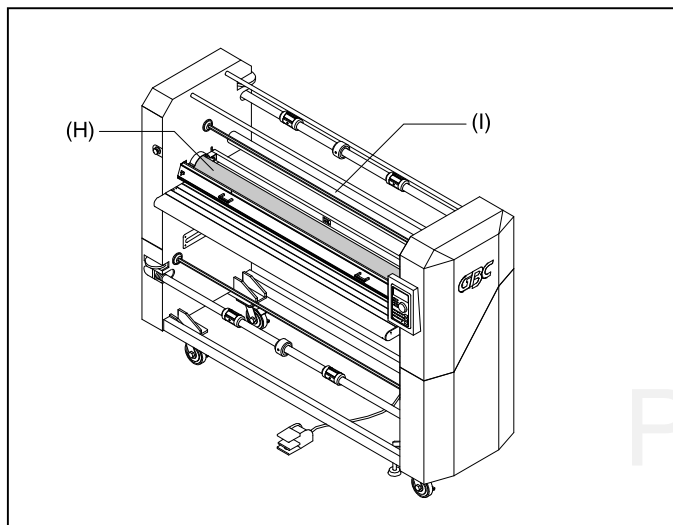

Fig. 13
**H. MAIN ROLLER:** (Figure 13) Silicone rubber coated steel tubes compress the film to the items being laminated. The top main roller can be heated by an internal heating element which assists the flow of adhesive of the top roll of film. The main rollers are motor driven for ease of loading new film.
**I. IDLER BAR:** (Figure 13) The idler bars, located near each main roller, are used to direct the film to the main roller nip. The bottom Idler Bar is movable to ease film loading.